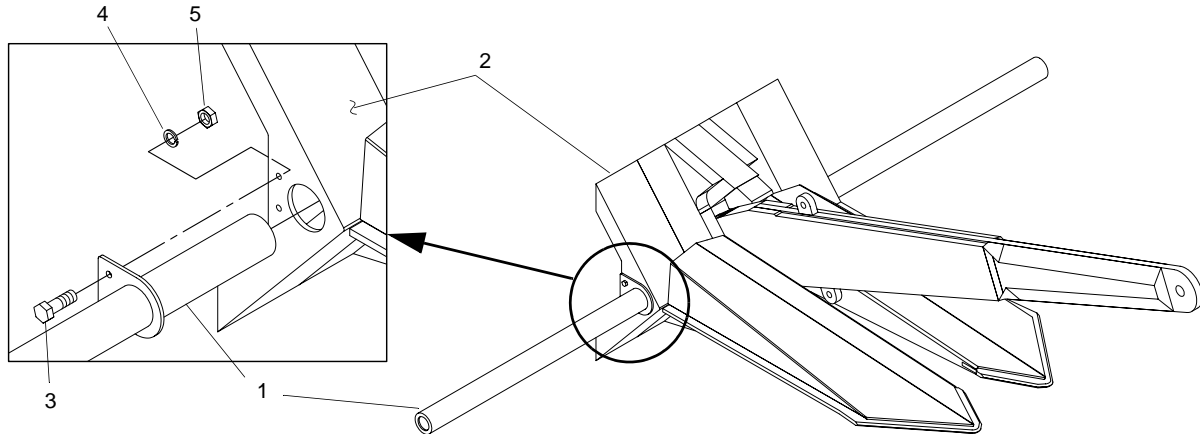

Figure 26. Anchor Stabilizer Installation
22. Install two stabilizers (figure 26, item 1) on anchor (figure 26, item 2) using previously removed bolts (figure 26, item 3), new lockwashers (figure 26, item 4) and nuts (figure 26, item 5). Tighten bolts (figure 26, item 3) and nuts (figure 26, item 5).